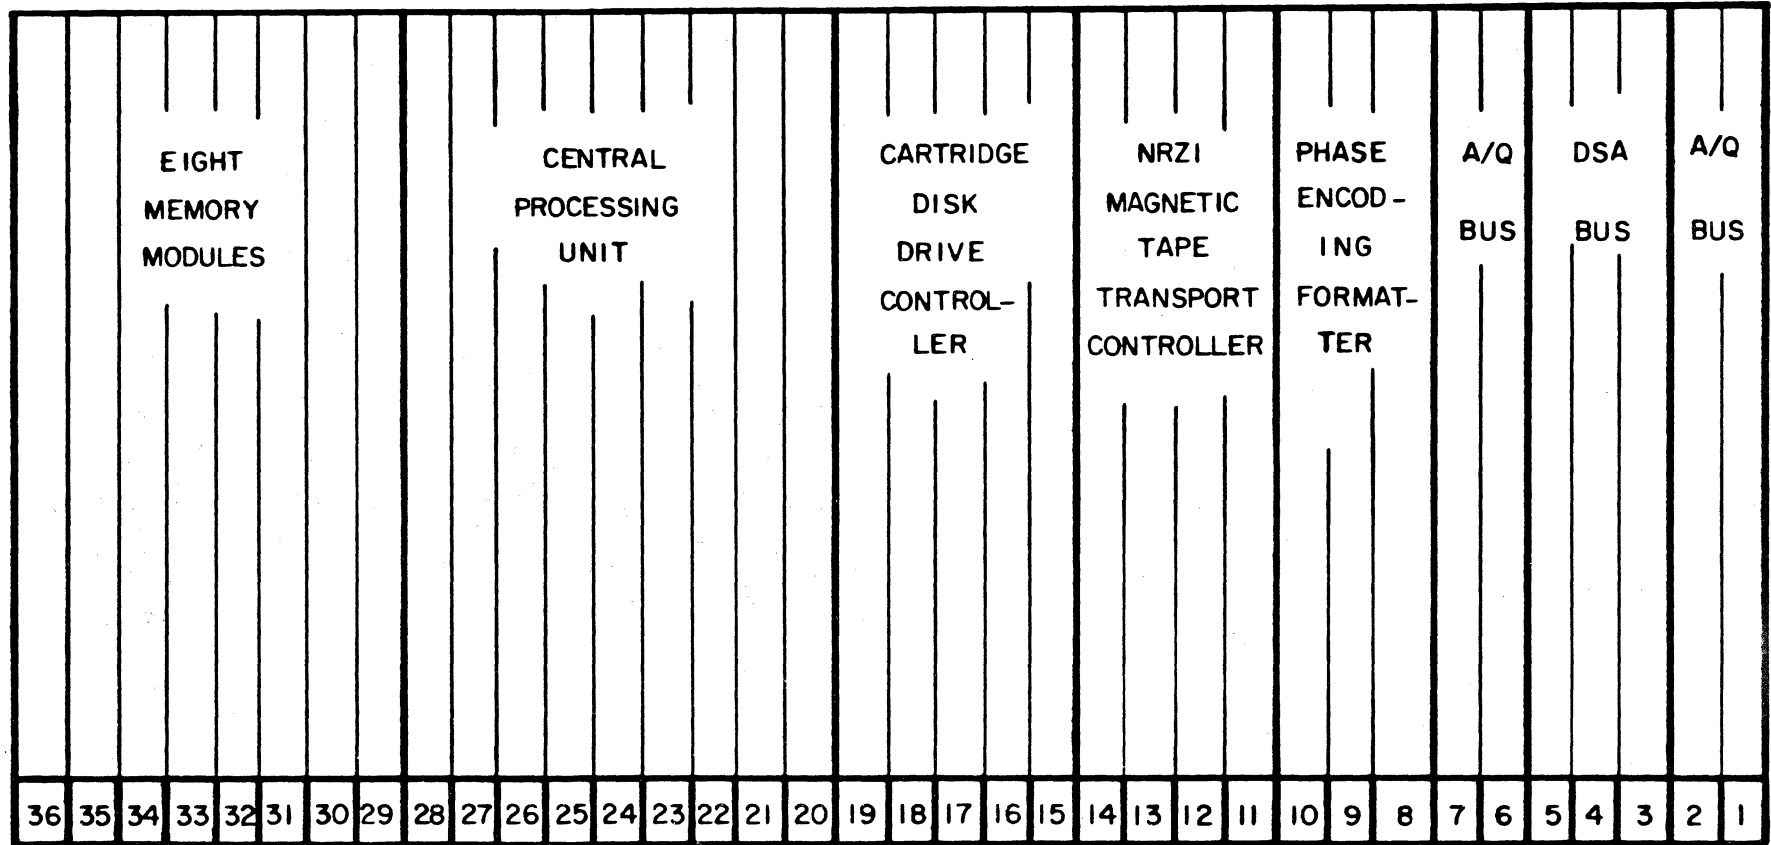

Figure 3-1. Locations of PWA's in Enclosure
1. Remove the air-flow blocks from lower slide of card slots to be used in both the main and remote enclosures. Refer to Figure 3-1 for selection of the location for PW board.
The direction of signal flow of all signals except data lines is determined by jumper plugs set on the expander PWA's according to PWA use (A/Q main, A/Q remote, DSA main, DSA remote). The data signal flow direction is determined by the combination of the jumper plug settings and the state of the Read signal for A/Q expansion, or the Write Enable for DSA expansion. Refer to Section 3 and Figure 3-1 for location of the positions for the jumper plugs.